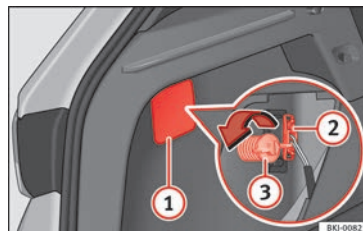
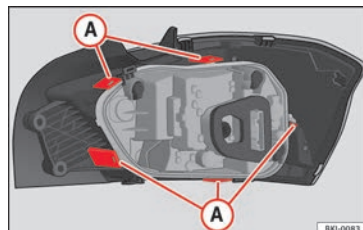

Fig. 115 Luggage compartment: access to the bolt securing the tail light unit.
Fig. 116 Retaining tabs on reverse side of tail light.
» **Fig. 115 ①**.
4. Remove the bulb connector **②**.
5. Unscrew the light securing bolt **③** by hand or using a screwdriver.
7. Remove the bulb holder unlocking the retaining tabs » **Fig. 116 A**.
① CAUTION